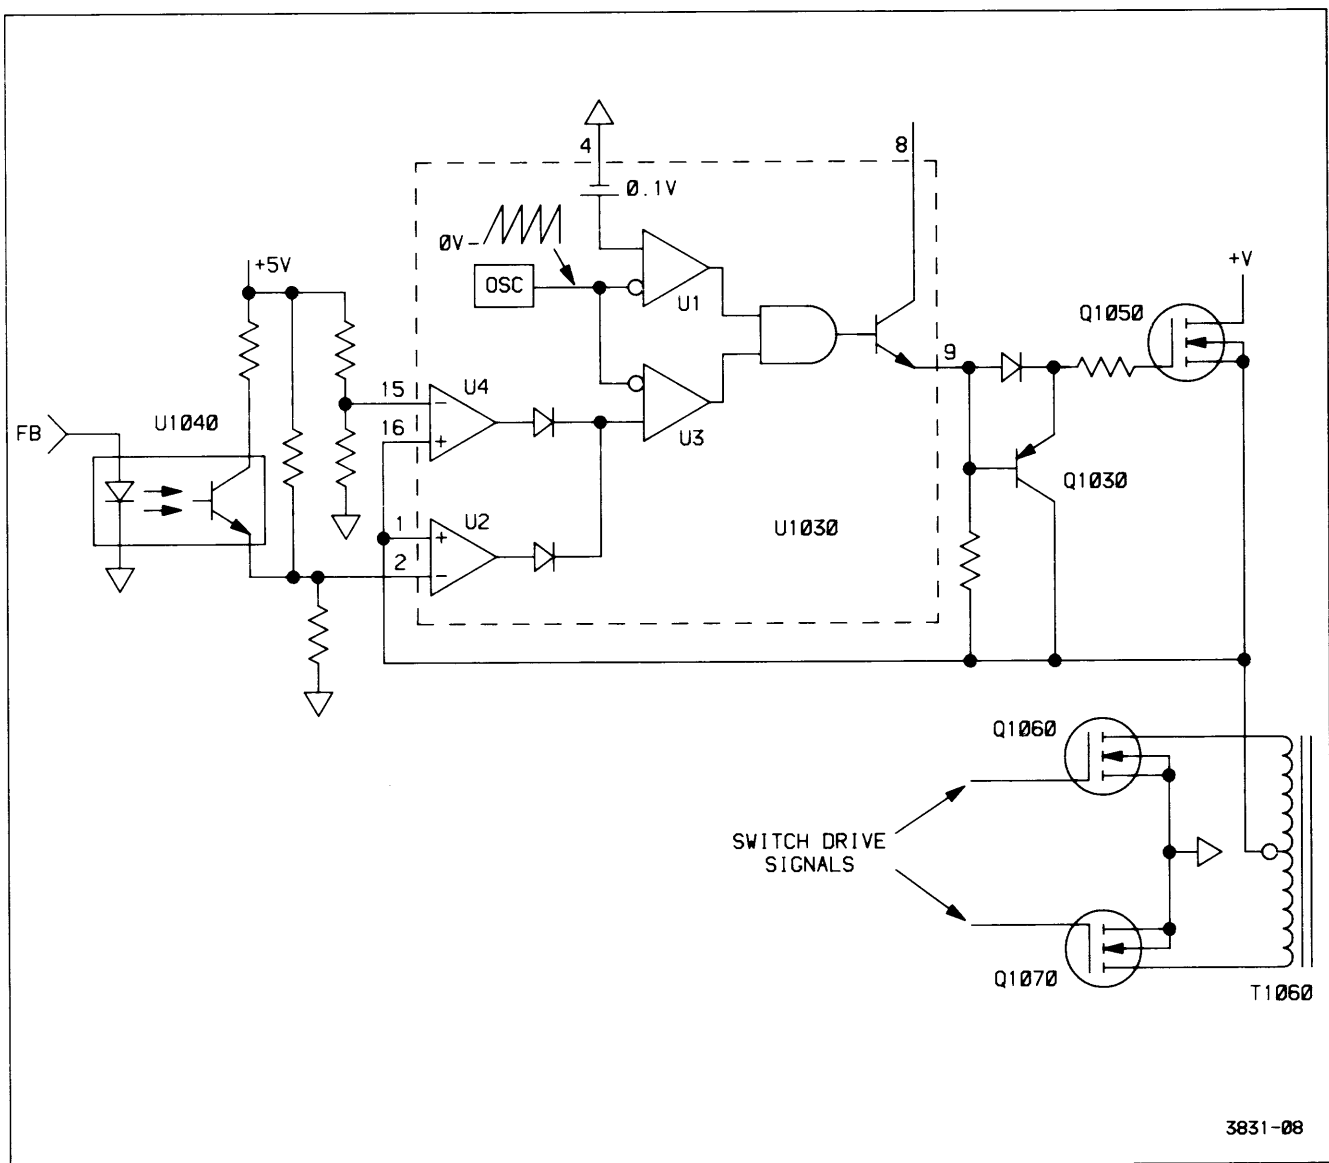

Figure 3-12. Simplified schematic of control network.
**PREREGULATOR START-UP.** As the supply for the Preregulator Control IC is established, an internal switching oscillator begins to run. The oscillator generates a repetitive triangular wave (as shown in Figure 3-11) at a frequency determined primarily by R1032 and C1032. The simplified schematic of Figure 3-12 illustrates the voltage control functions of U1030.